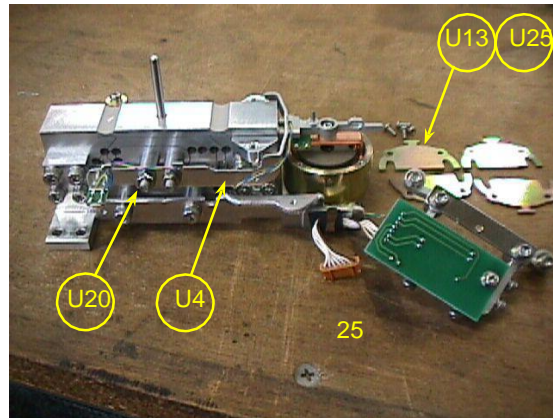

Fig.16
- Loosen the P3 M3x10 hexagonal socket-head bolt (U22) fixing the Detector frame (U7) in place to remove it (Fig.16).
- Loosen the four M2.5x6 screws (U25) fixing the four Magnet lids in place (U13) and pull the Magnet lids (U13) out horizontally to detach it (Fig.16).